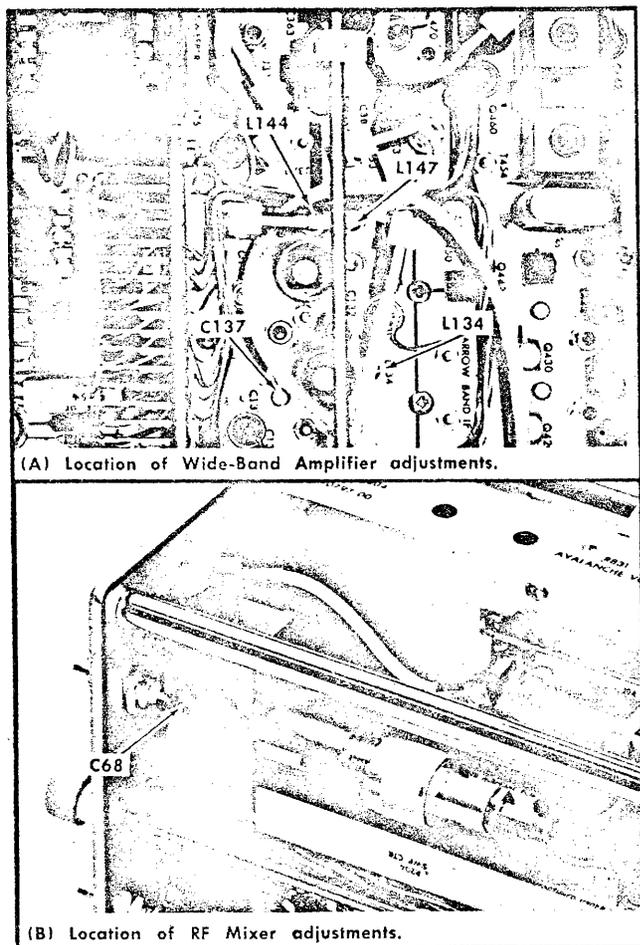

Fig. 6-26. Wide band IF amplifier and 1st mixer adjustments for response flatness.
d. Adjust C68 in the RF mixer (Fig. 6-26) for optimum signal amplitude and display flatness over the 100 MHz dispersion. (+ and -50 MHz either side of 1000 MHz.)
17. Adjust Wide Band Amplifier Response, ① Check Response Flatness of RF Mixer and Wide Band IF Amplifier
- d. Adjust L147 (Fig. 6-26) the 65 MHz trap, for minimum response to the 65 MHz signal. This will be indicated by a decrease in the vertical displacement of the plug-in oscilloscope trace.
- i. If the response flatness is not within tolerance, adjust C137 and L134 (Fig. 6-26) for maximum sensitivity and analyzer response flatness. Adjusting C137 will usually produce a noticeable effect on the response slope. Adjust L134 for optimum sensitivity at the high frequency portion of the IF response.